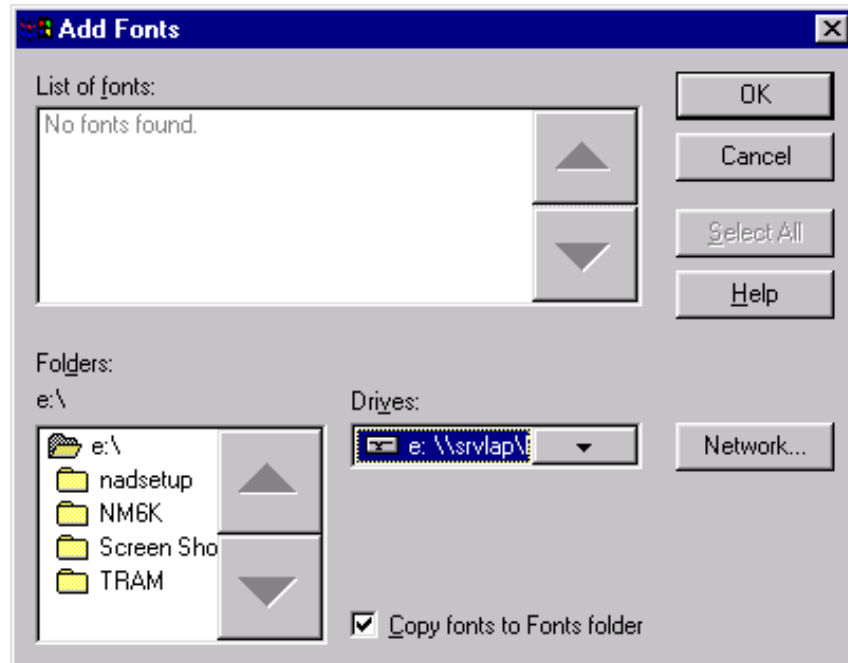

FIGURE 28. Add Fonts Dialog
8.52 Touch the 'Drives' drop down menu. Use the arrow key on the keyboard connected to the NM6000 to select directory folder 'e:\\srvlap\\NAD Software', then press Enter. See Figure 28.